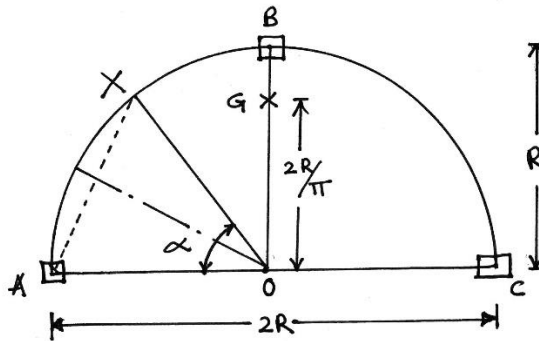

Fig. 1
2. Derive an expression for semi – circular beam subjected to uniformly distributed load 'w' in kN/m and simply supported by three columns spaced equally. Refer Fig. 1. **13**